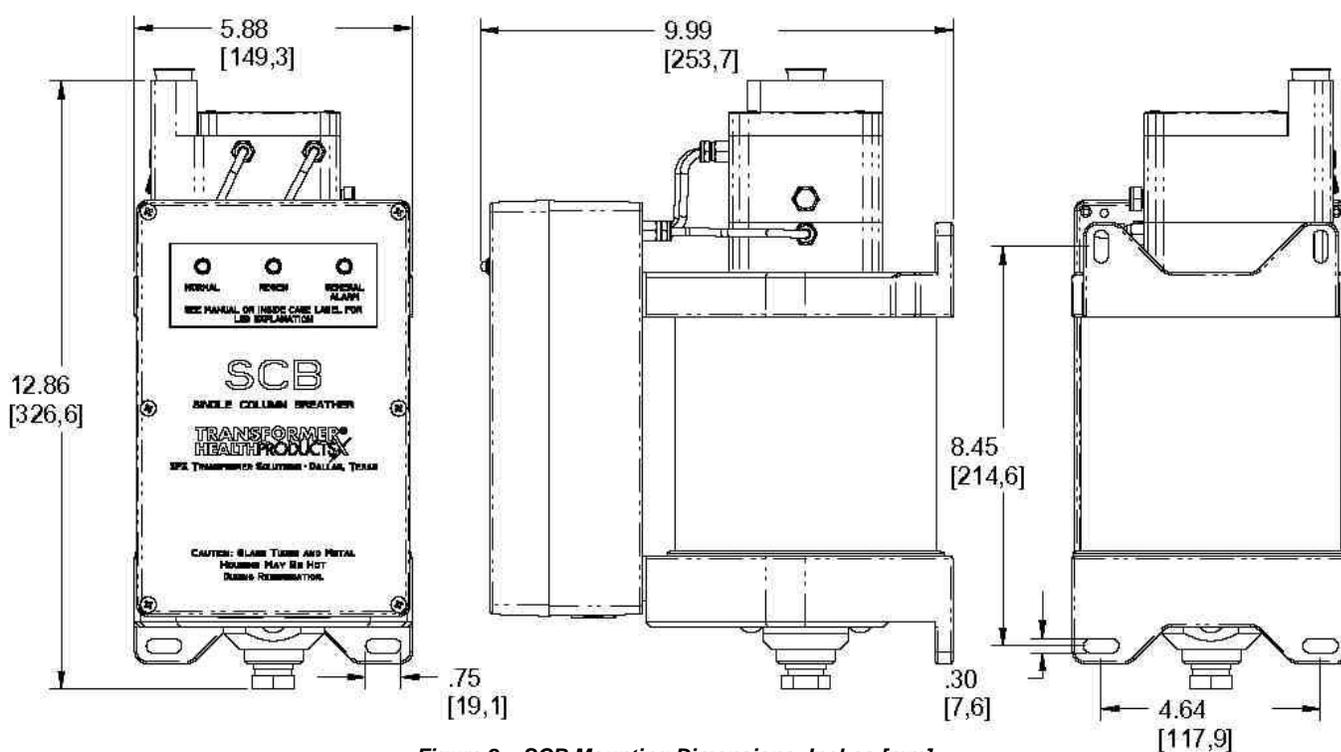

Figure 2 – SCB Mounting Dimensions, Inches [mm]
1. Measure and mark mounting holes or studs as shown by the center-to-center distances in Figure 2 above.